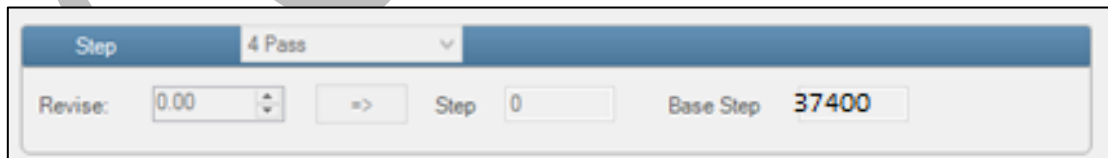

Fig 33: The Step Calibration Parameters
Step 1: Select the desired pass from the list and click on the **Print** button (Refer to Fig 33).
Step 2: Feed the correction value in the **Revise** field (the correction value up to two decimal places) (Refer to Fig 33).
Step 3: Click on the => icon (Refer to Fig 33) on the Step Calibration window. The correction value result will be reflected in the **Step** field (Refer to Fig 33). The same step value will also be displayed in the **Steps** field on the **Quick Access Toolbar**.